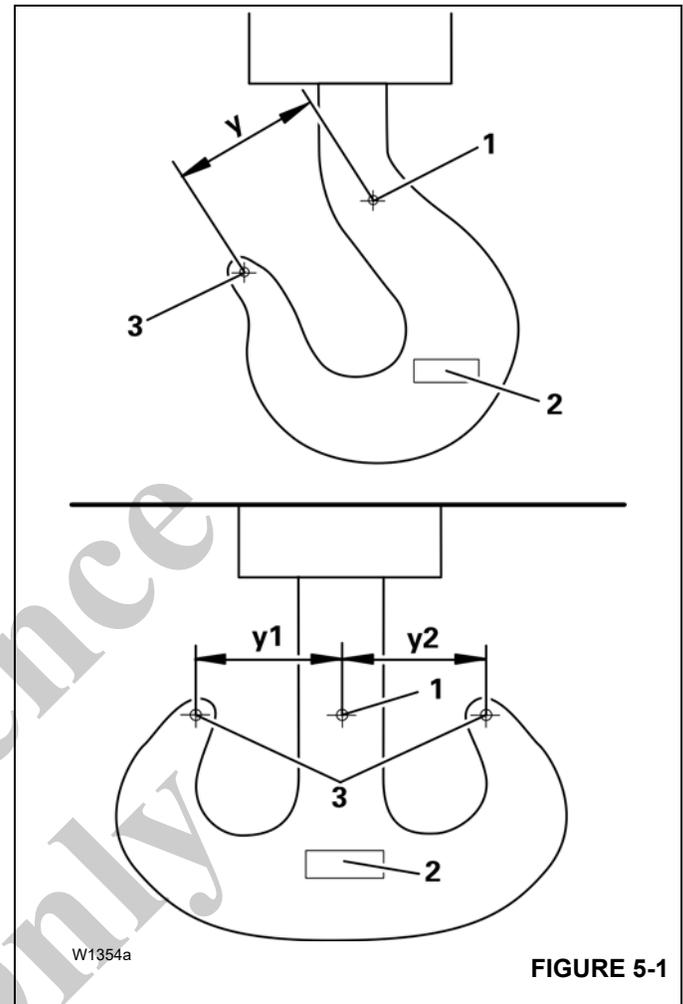

FIGURE 5-1
The original dimensions y , $y1$, $y2$ are printed in field (2), (Figure 5-1) on the load hooks.
- To check, measure the distance between the marked measuring points on the load hook shaft (1), (Figure 5-1) and the tip of the hook (3), (Figure 5-1).